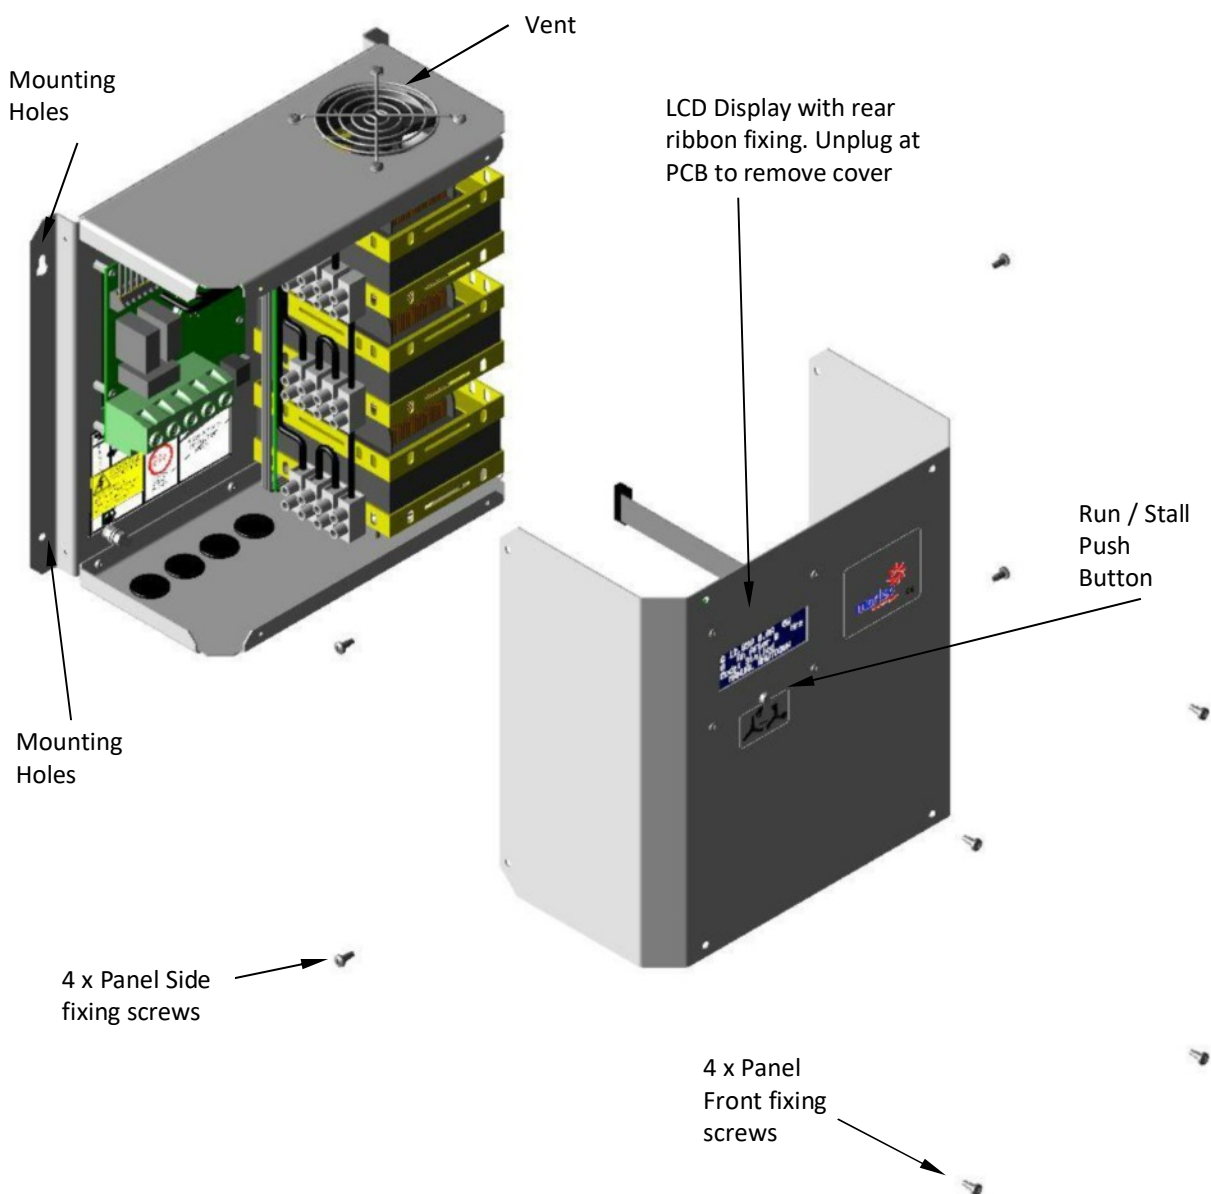

Fig 6. Control Unit
- Remove the fixing screws from the control unit front panel, see Fig 6. As the panel lifts away unplug the LCD connection ribbon cable from the PCB in the main housing.